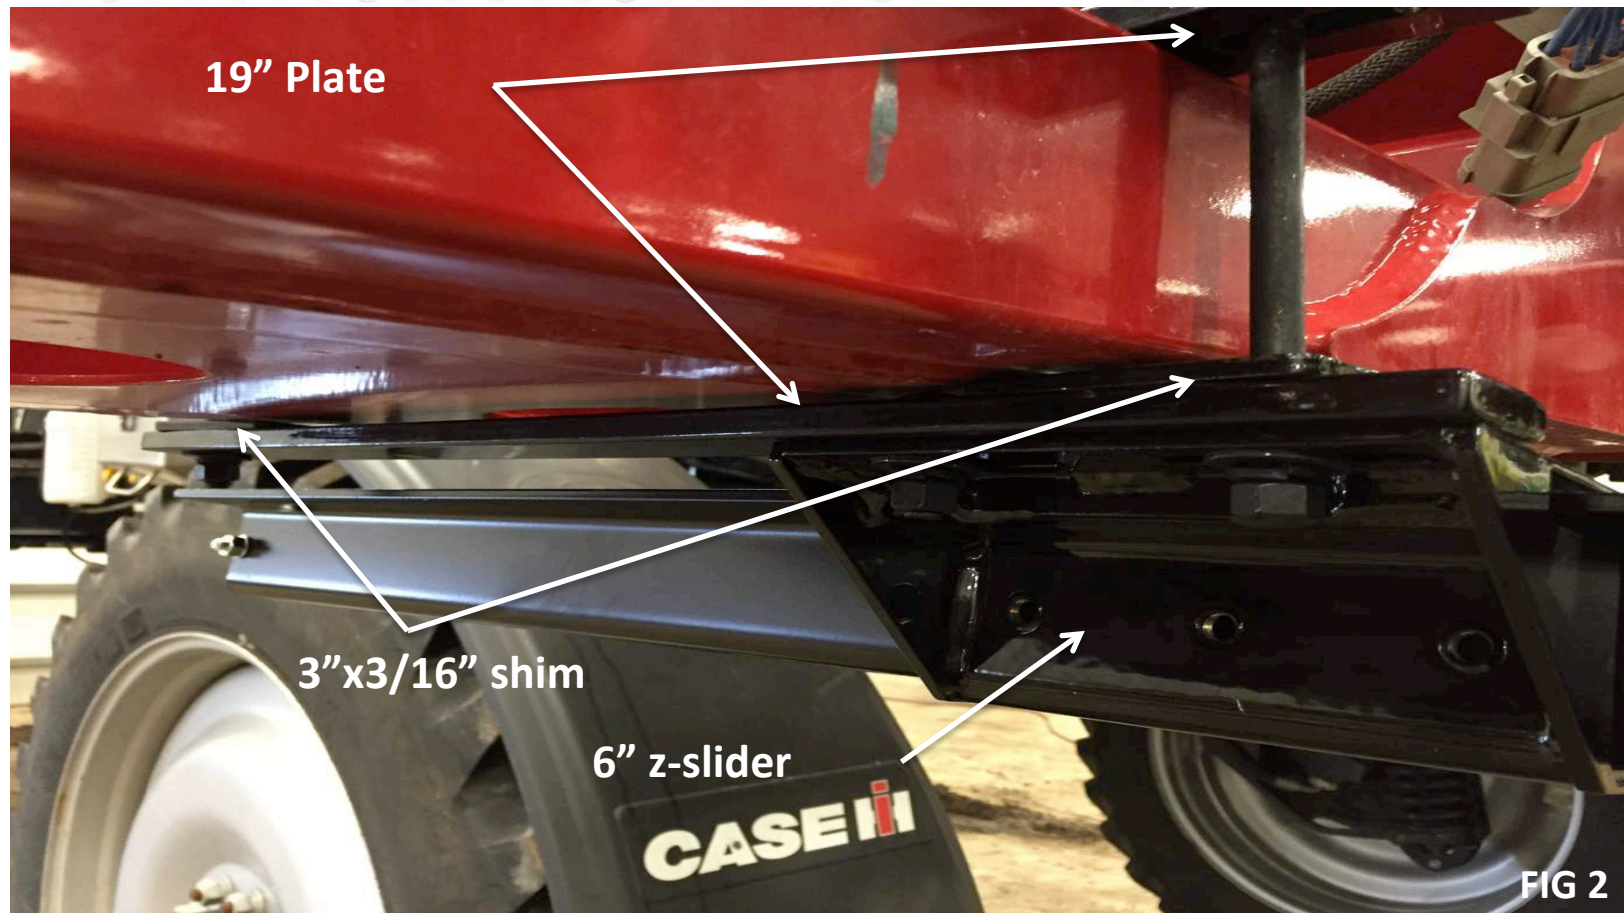

FIG 2
2. **Assemble mounting bracket in Zone 1 on the boom and leave loose**, shown in Fig 2. The longer top and bottom plates are required to span the full boom section, front to back.